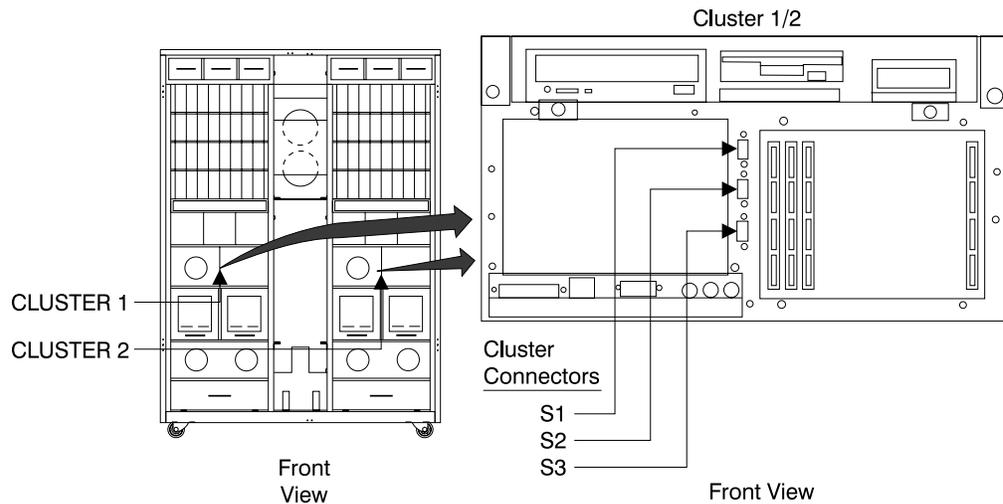

Figure 258. Cluster Bay Connectors for Service Terminal (S008027m)
- ___ 1. Connect the service terminal interface cable to the S2 connector [Figure 258] on the front of cluster bay 1 and log into cluster bay 1.